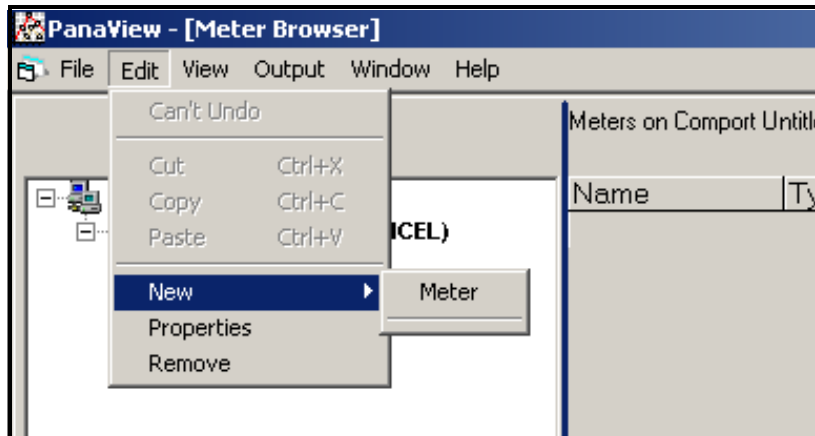

Figure 18: “New” Option in the “Edit” Menu
2. Click on the “New” option in the “Edit” menu (see Figure 18).